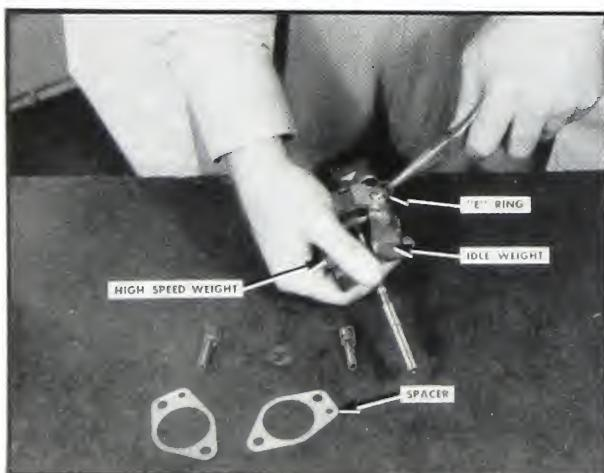

Fig. 5-211. Remove "E" rings
1. Remove the retaining "E" rings from the ends of the governor weight shaft. Remove the shafts, weights and spacer washers. Fig. 5-211.